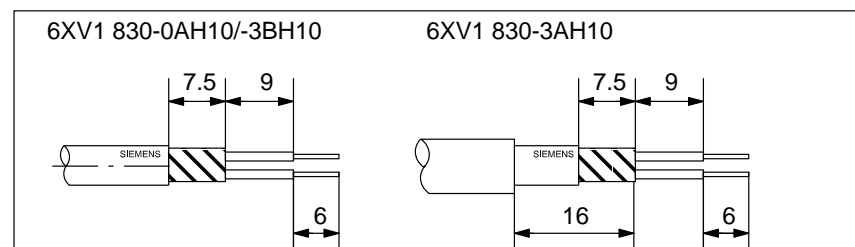

Figure 3-16 Length of Bared Wire for Connecting to the Bus Connector
2. Insulate the bus cable according to Figure 3-16.